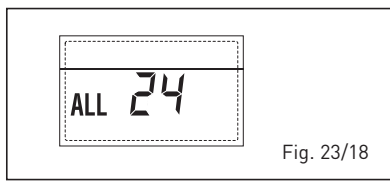

Fig. 23/18
- COMPATIBILITY INPUT (S3) ERROR ONLY FOR SYSTEM 7 "ALL 28" (fig. 23/22)